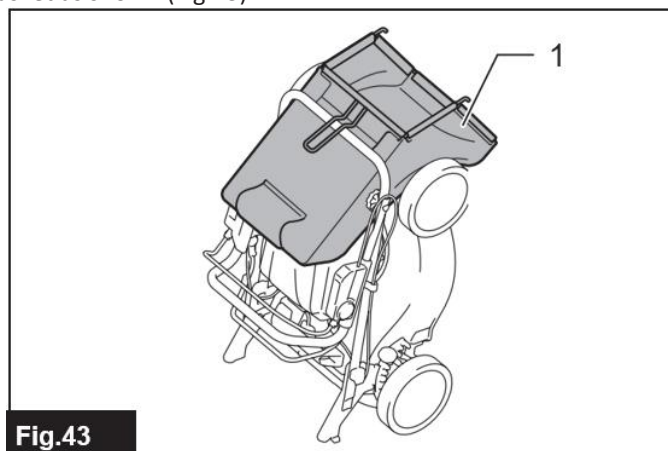

Fig.43
4. Store the grass basket as shown (Fig.43).